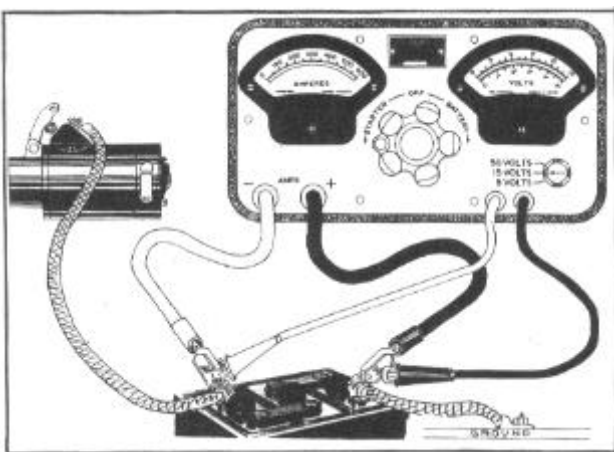

FIGURE 11
2. Turn the voltmeter "selector switch" to the 15 volt position and connect test leads, Figure 11.